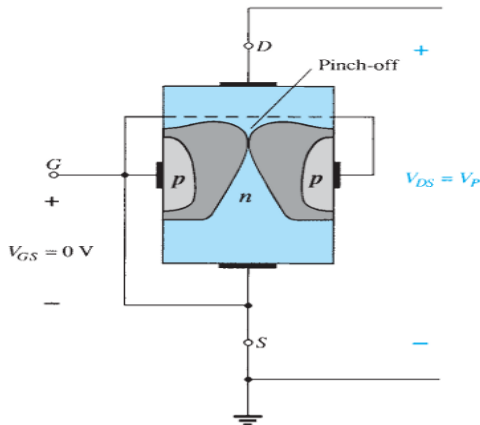

Figure 6: Pinch-off ($V_{GS} = 0 \text{ V}$, $V_{DS} = V_P$).
- If V_{DS} is increased to a level where it appears that the two depletion regions would "touch" as shown in Fig. 6, a condition referred to as pinch-off will result.